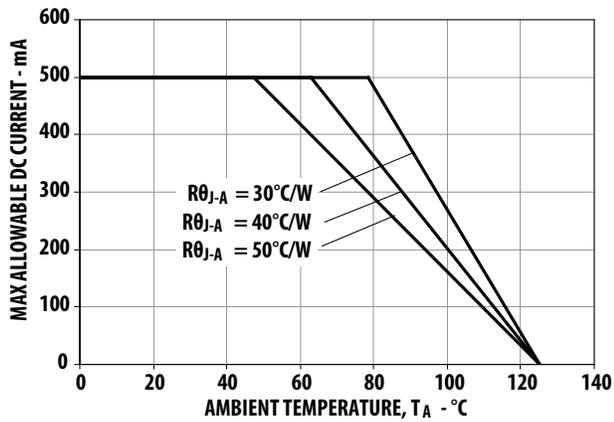

Figure 10. Maximum Forward Current vs. Ambient Temperature.
- Derate linearly based on Figure 10 for AlInGaP and Figure 22 for InGaN.